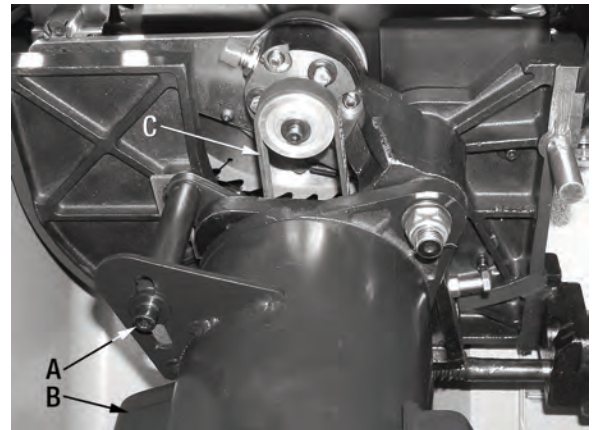

FIGURE 28
To remove the V-belt, tilt the blade to the 45 degree position as shown in Fig.28. Loosen the large cap screw (A) Fig.28 and then take the tension off of the V-belt by lifting up on the motor (B). Remove the V-belt (C) from the arbor shaft and the motor pulley and replace it with a new one. Lower the motor, the weight of the motor should apply enough tension and retighten large cap screw (A). Check the V-belt tension after the saw has been used for a few hours. Adjust as necessary.